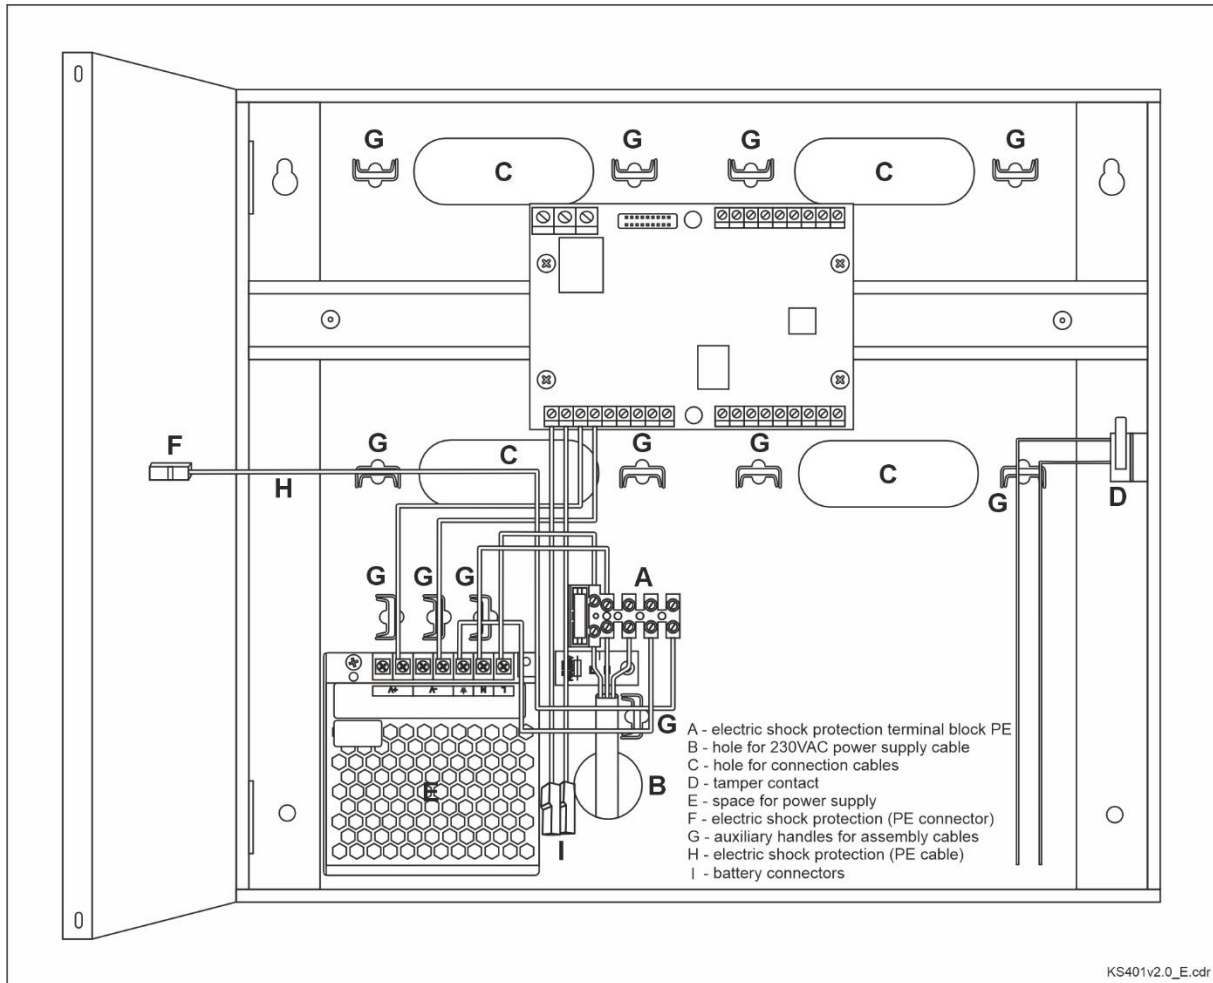

Fig. 2 The view of the PR402DR-SET interior with the power supply installed
6. The protective conductor H connected to terminal block A (Fig. 2) must be connected to the PE electric shock protection (connector F) located on the enclosure door.